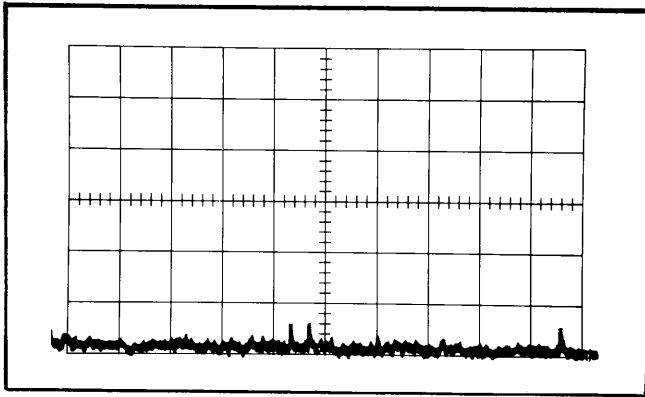

Fig. 5-1. Typical display to illustrate signal to noise ratio less than 2:1.
j. Check—Amplitude of spurious signals, except the 0 Hz start spurious signal, must not exceed $2\times$ noise level. See Fig. 5-1.